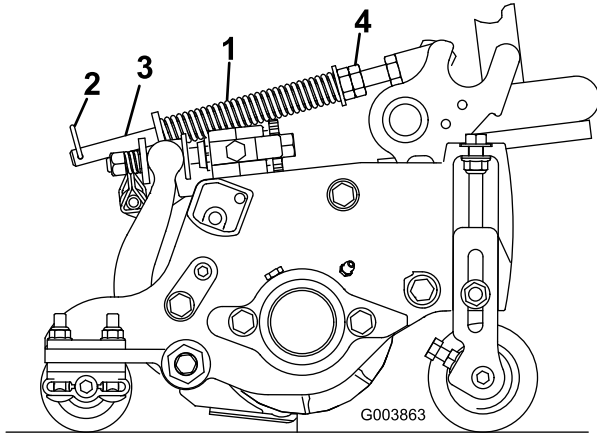

Figure 13
1. Make sure the hairpin cotter is installed in the rear hole in the spring rod (Figure 13).
2. Tighten the hex nuts on the front end of the spring rod until the compressed length of the spring is 5 inches (12.7 cm) (Figure 13).